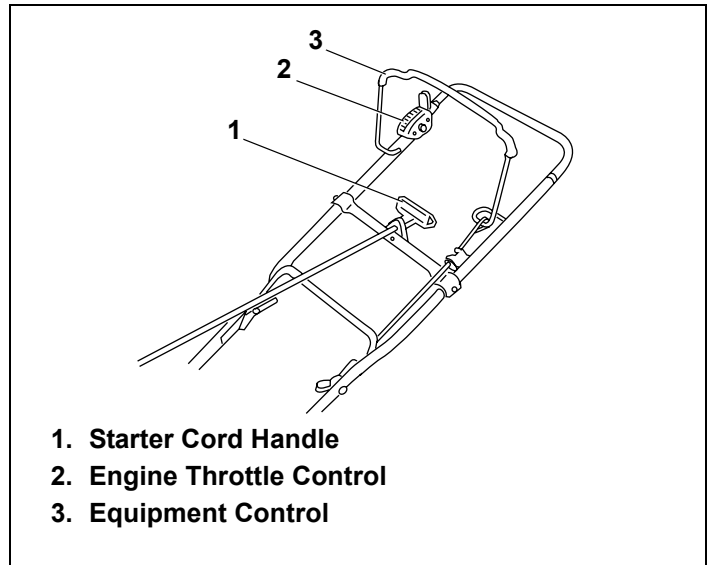

Figure 21. Typical Engine Controls
2. Move engine throttle control to "FAST" position, if present (see equipment manufacturer's instructions). See Figures 21, 22 and 23.
- Operate equipment control to release engine brake or clutch, if present (see equipment manufacturer's instructions). See Figure 21 on page 10. Afterward, continue reading instructions below.
- Grasp starter cord handle. See Figure 21 on page 10. Afterward, continue reading instructions below.
- Move engine throttle control to "CHOKE" or "START" position, if present (see equipment manufacturer's instructions). See Figures 21, 22 and 23 on page 10. Afterward, continue reading instructions below.
If restarting a warm engine after a short shutdown, move engine throttle control to "FAST" position instead of "CHOKE" or "START" position. See Figures 21, 22 and 23 on page 10. Afterward, continue reading instructions below.
- Operate equipment control to release engine brake or clutch, if present (see equipment manufacturer's instructions). See Figure 21 on page 10. Afterward, continue reading instructions.
- Move engine throttle control back to "CHOKE" position. See Figures 21, 22 and 23 on page 10. Afterward, continue reading instructions below.